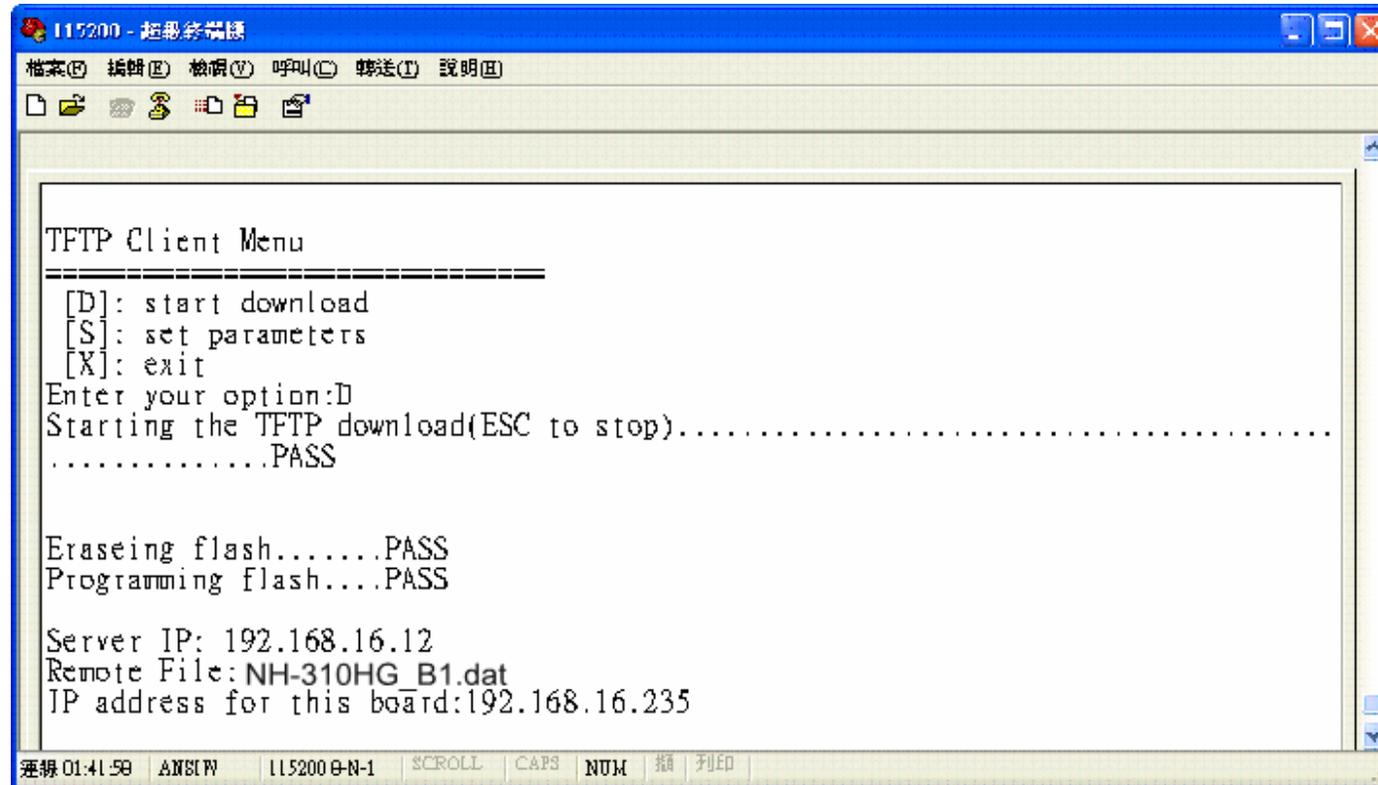

Figure 5.3.5 Firmware upgrade completed
(5) Enter your option: "D" and it will be beginning the TFTP download. After Erasing and Programming flash process, and NH-310HG new firmware upgrade is completed. A screen is displayed as shown in Figure 5.3.5.